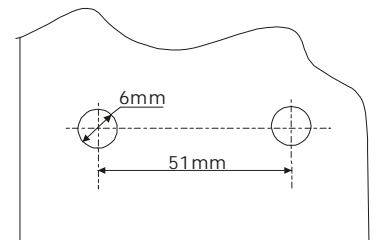

Fig. 4
- 1) Drill two same holes in wall and strictly follow the dimension as indicated in the fig.4